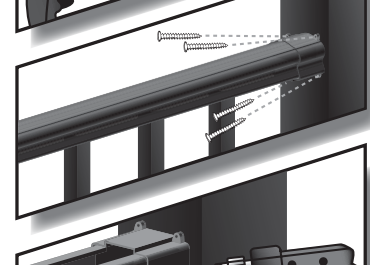

Figure 6
- 8.) Using a $\frac{1}{8}$ " drill bit, pre-drill all four top bracket screw holes on one post *Figure 6*.